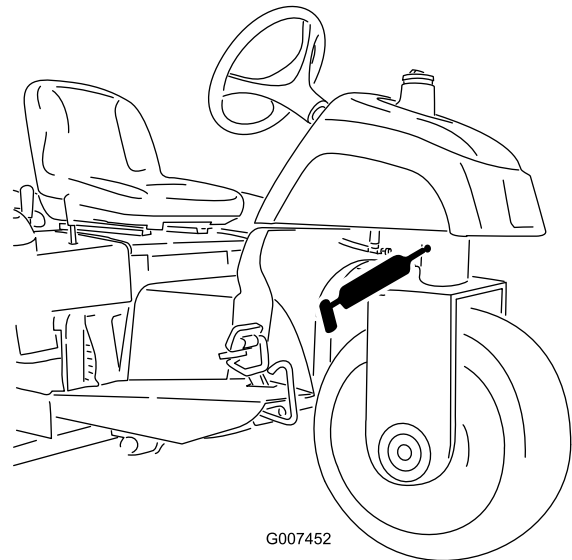

Figure 23
- Steering pivot (Figure 23)
**Note:** The flush fitting on the steering pivot (Figure 23) requires a grease gun nozzle adapter. Order Toro Part No. 107-1998 from your authorized Toro distributor.